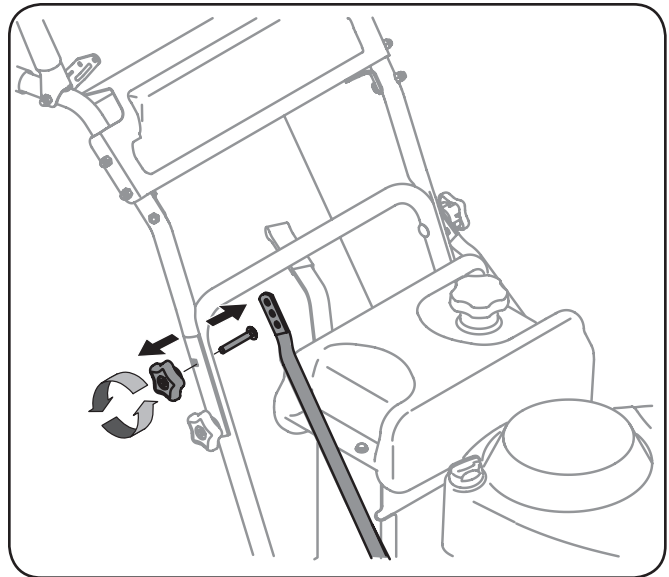

Figure 6-7
1. Remove the upper star knob and carriage screw on the right side of the handle and the left side of the handle. See Figure 6-7.